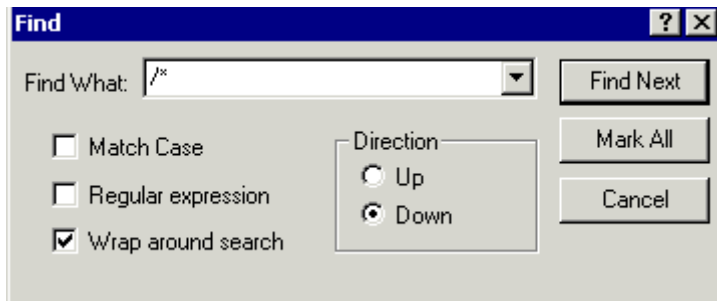

Figure 3-14. Find Dialog Box: Locating All Occurrences of `/*`
2. From the **Edit** menu, choose **Find** to open the **Find** dialog box, shown in Figure 3-14.